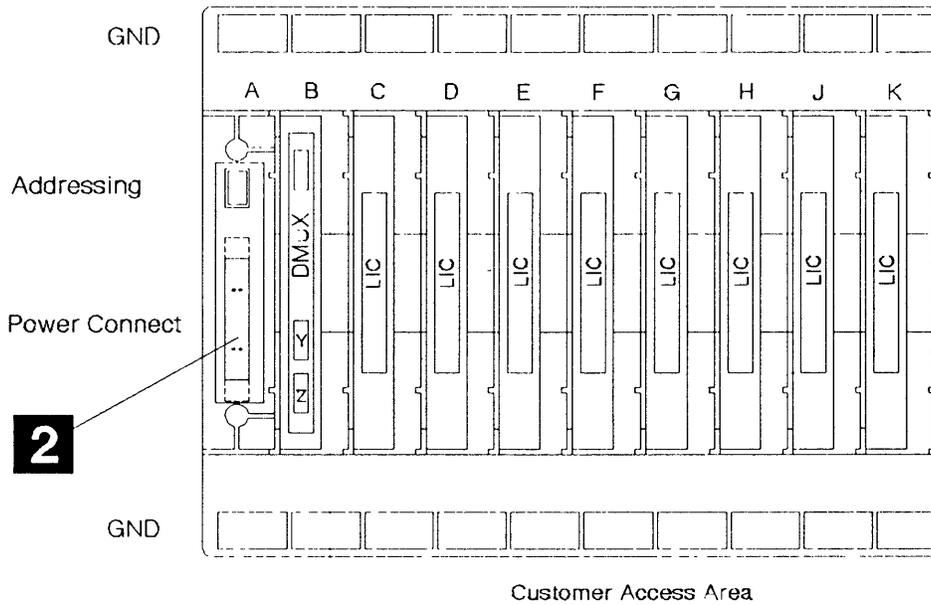
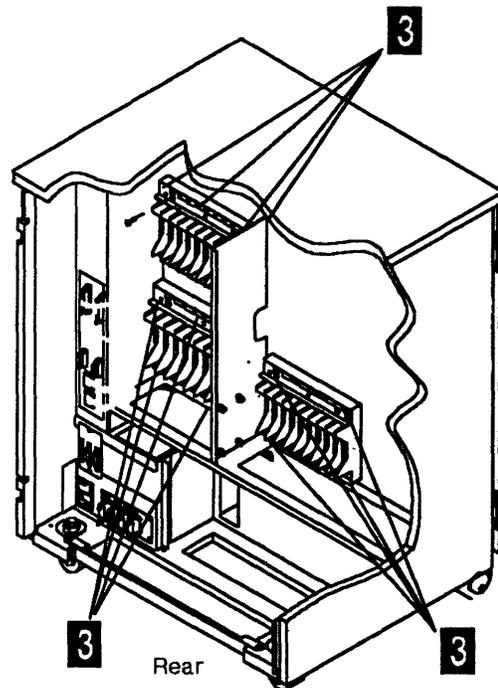

Figure 4-109. LIC Locations
Figure 4-110. LIC Board Assembly
Refer to Figure 4-109 and do the following:
Refer to Figure 4-109 on page 4-80 and Figure 4-110 and do the following.
1. Refer to Figure 4-109 on page 4-80 and set the same board address as you noted during the board removal.
2. Refer to Figure 4-110 then mount the new LIC board assembly in place and secure it with the 4 screws **3**.
3. Refer to Figure 4-109 on page 4-80, then reconnect the flat power cable **2**.